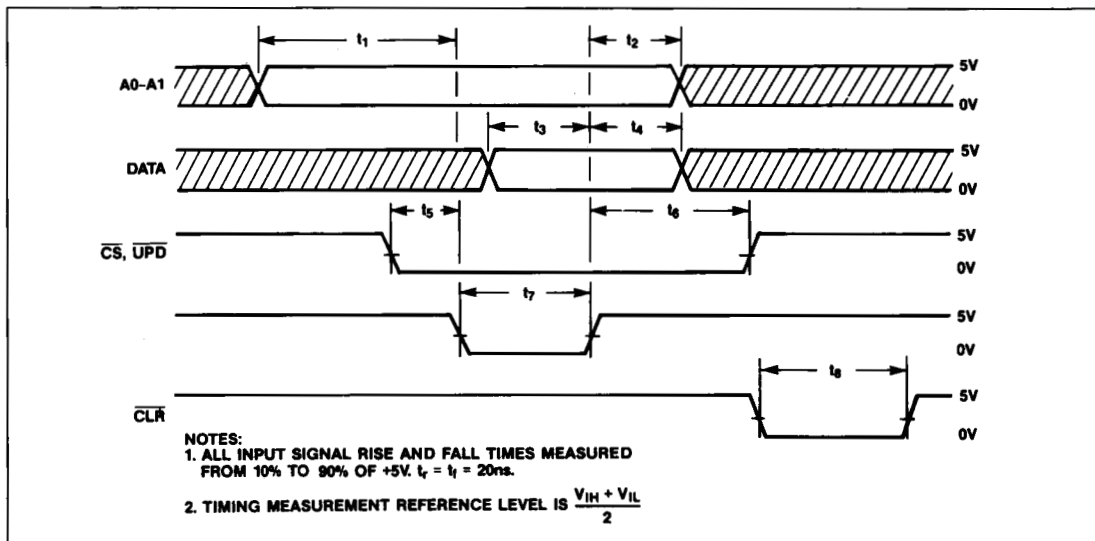

Figure 2. Timing Diagram for MX7537
### TIMING CHARACTERISTICS—AD7537 ( $V_{DD} = +10.8V$ to $+16.5V$ . See Figure 2 for timing diagram.)
Figure 2 shows the timing diagram for the MX7537. A1 and A0 select the most-significant (MS) or the least-significant (LS) input registers for DAC A or DAC B (Table 1). When loading the MS register, DB3 is the MSB of the 12-bit data input. Similarly, when the LS register is loaded, DB0 is the LSB. Data is loaded into the DAC when CS and WR both go low. CLR and UPD must be kept high while the data is loaded. When CLR is low, all registers are cleared without regard to the state of other control signals. When UPD and WR are low, the DAC registers are updated simultaneously from the input registers. When UPD, CS and WR are low, the DAC registers are transparent and load the